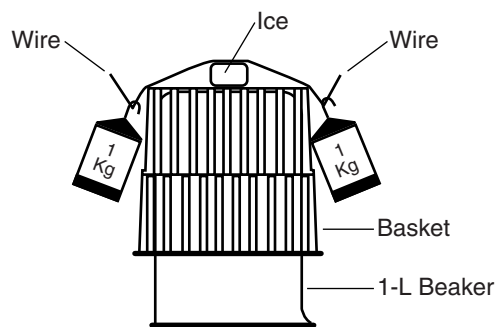

Figure 1.
3. Securely wrap the metal wire several times around the hook of each weight and back up around the wire. Leave enough wire between the hooks so that it will span across the bottom of the basket with an inch or two of slack on each side of the beaker (but not enough slack so that the weights will touch the countertop). (See Figure 1.)